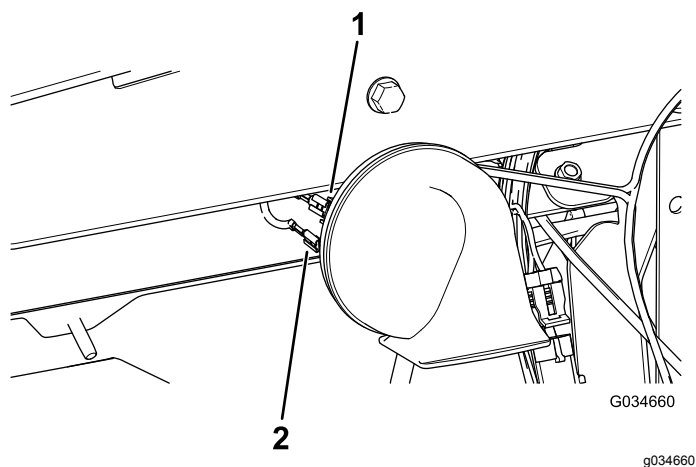

Figure 4
3. Plug the 2 female connectors from the main wire harness into the 2 male connectors on the 48 V horn (Figure 4).